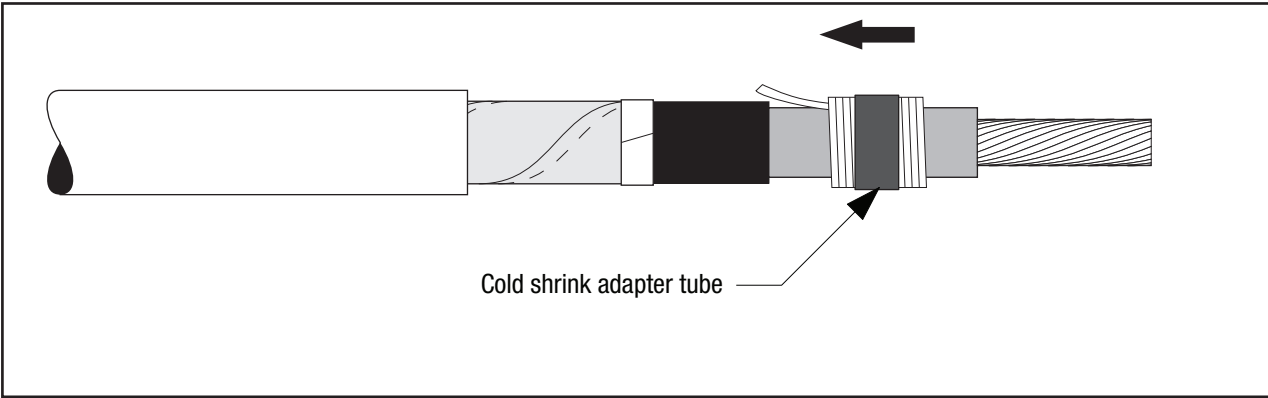

Figure 7
3.4 For 350 or 500 kcmil copper connectors or connectors with an O.D. between 0.80 - 1.04" (20,3 - 26,4 mm): Park the cold shrink adapter tube on the insulation. (Figure 7)